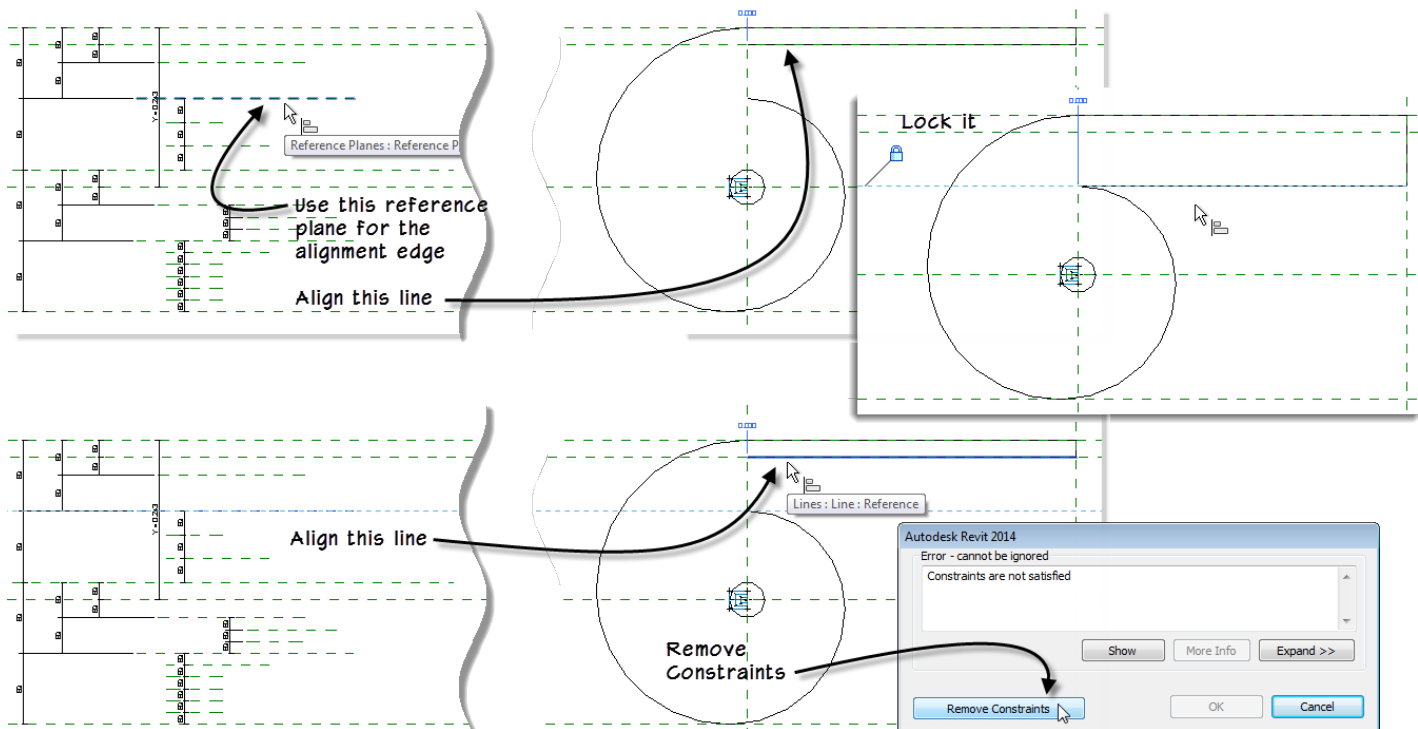

FIGURE 17—ADJUST THE SHAPE OF THE PROFILE
6. Lock the alignment (see Figure 17).